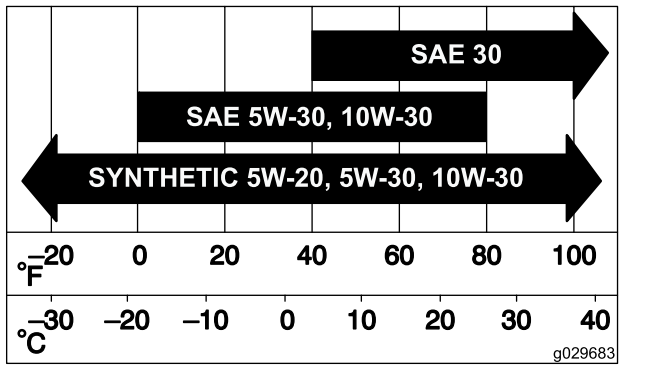

Figure 72
3. Release the latches on the air cleaner and pull the air-cleaner cover off the air-cleaner body (Figure 72).
5. Gently slide the filter out of the air-cleaner body (Figure 72).
2. Carefully slide the filter into the air-cleaner body (Figure 72).
3. Install the air-cleaner cover and secure the latches (Figure 72).